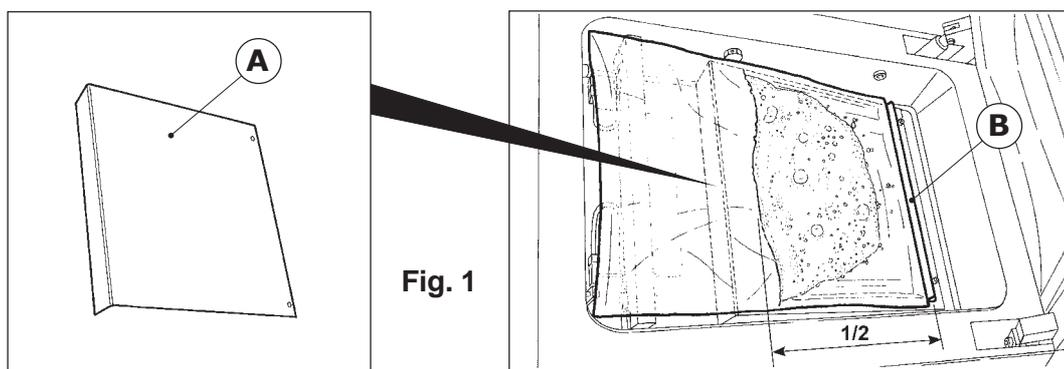

Fig. 1
- 2) Remove all the insertion plates and insert the inclined work top (A) in the chamber with the upper part facing the sealing bar and sliding retainer (B) adjusted along the bag length.
- 3) Insert the bag containing the liquid to be packed inside the chamber, making sure that it is only half-filled (1/2) (Fig. 1). Place it centered on the sealing bar, so that the open end projects by about 20mm beyond the bar.